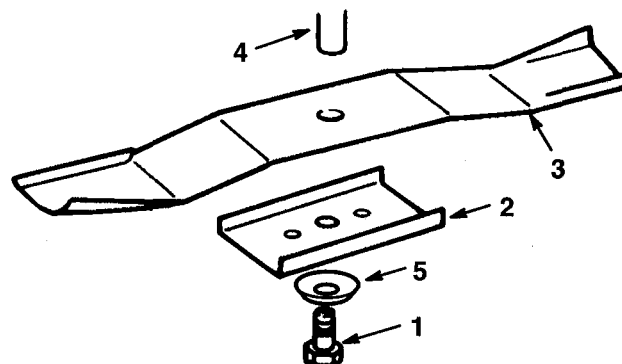

Figure 36
3. Remove the bolt (5/8" wrench), curved washer, retainer and blade (Fig. 36). A block of wood may be wedged between the blade and the mower to lock the blade when you are removing the bolt.
1. Install the blade, blade retainer, curved washer (cupped side toward blade), and the blade bolt (Fig. 36).